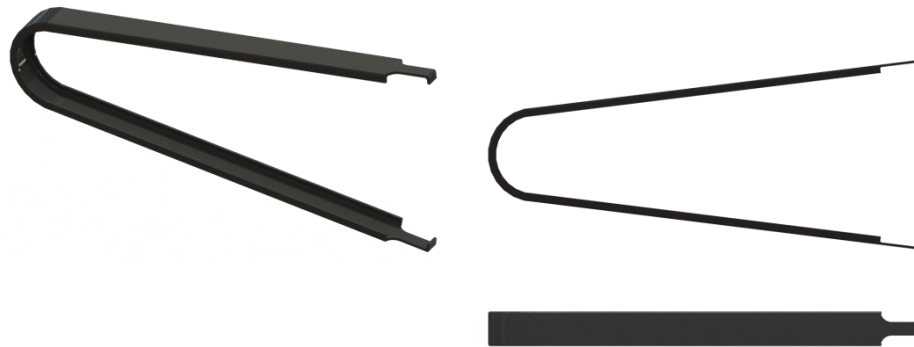
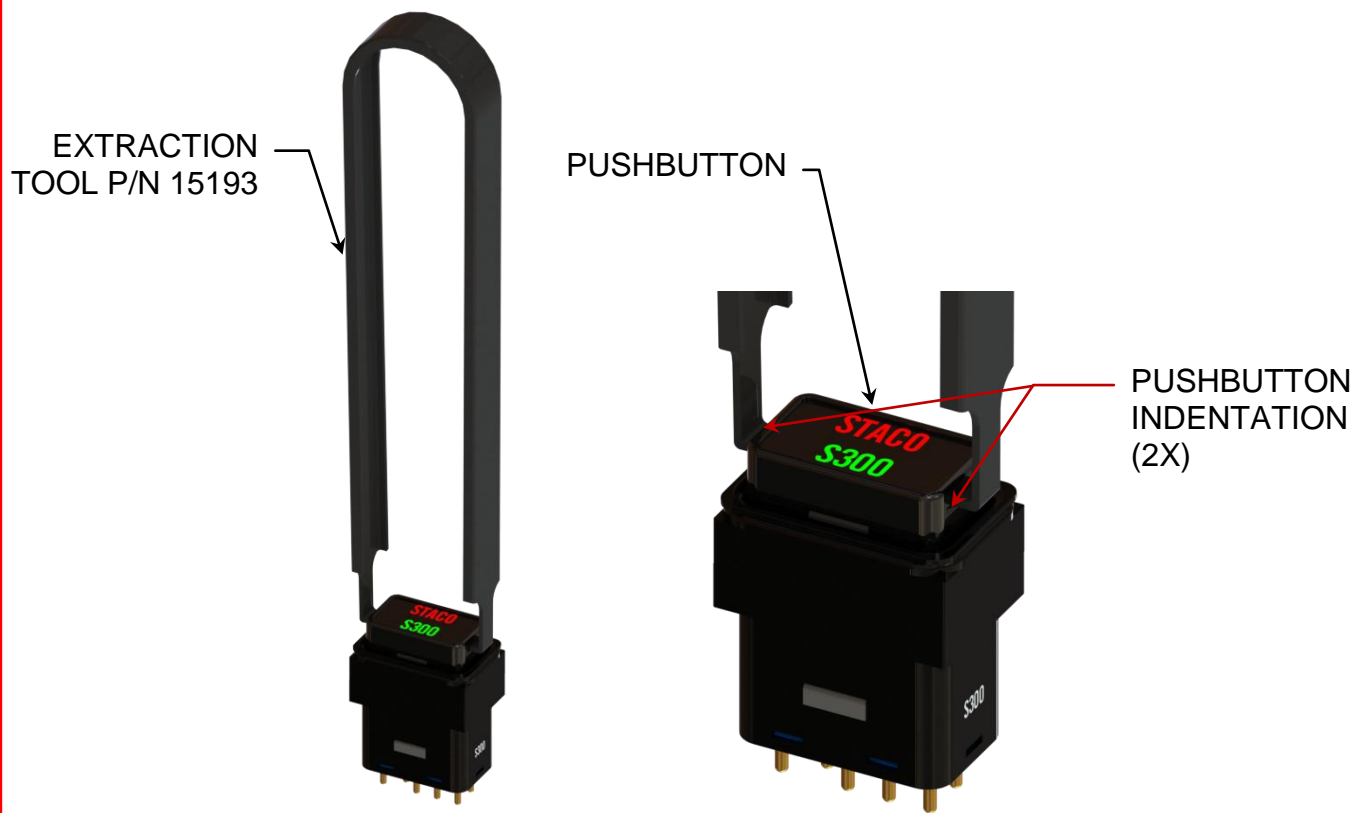

Figure 3: Pushbutton Extraction Tool (P/N 15193)
Figure 4: Pushbutton Extraction (PCB termination version shown)
Using pushbutton extraction tool, see Figure 3. position the tool's gripping tabs around the two indentations, located on the pushbutton's retainer as shown in Figure 4 and Detail B. Clamp/squeeze the tool gently, but firmly, and pull the pushbutton away from the switch / indicator housing. The removal force should be in the range of two (2) to five (5) pounds.